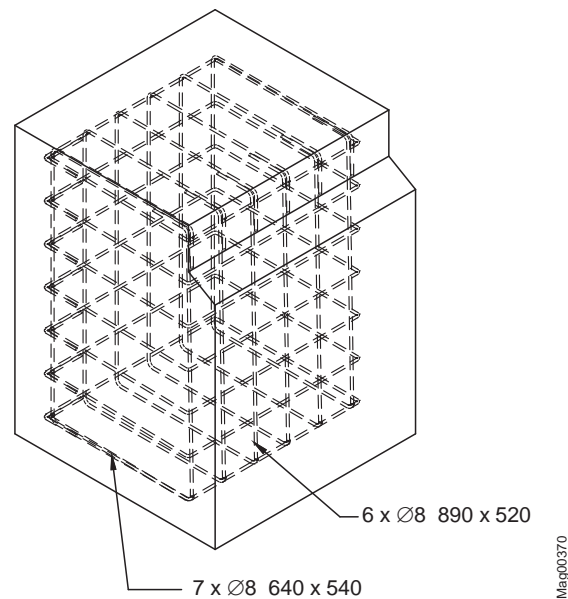

Fig. 15: Reinforcement grid Access XXL (dimensions in mm)
2. Place reinforcement grid pursuant to Fig. 15 in the foundation hole.